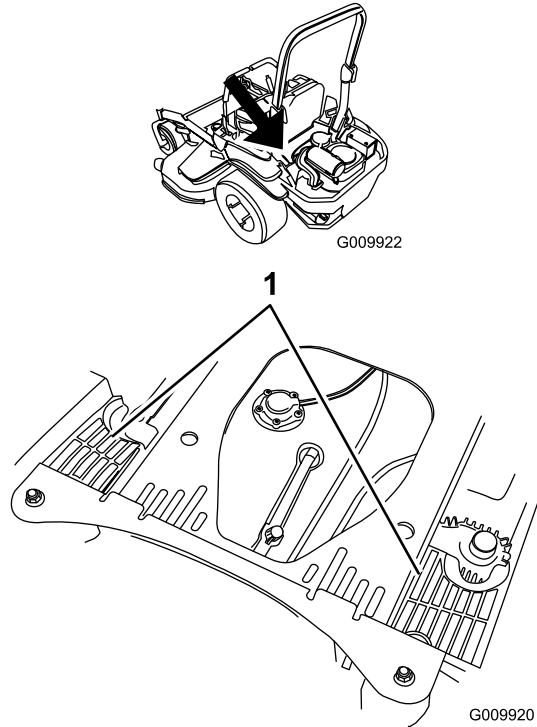

Figure 73
4. Clean the debris and grass from the hydraulic-unit shrouds (Figure 73).